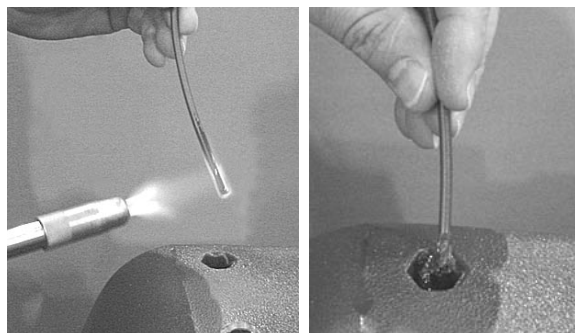

Fig. 3
1. Fill the cavity with about 1/2 inch of clear plastic bead (supplied with the kit). Use torch to soften the plastic (Figure 3). Larger cavities may require extra plastic.